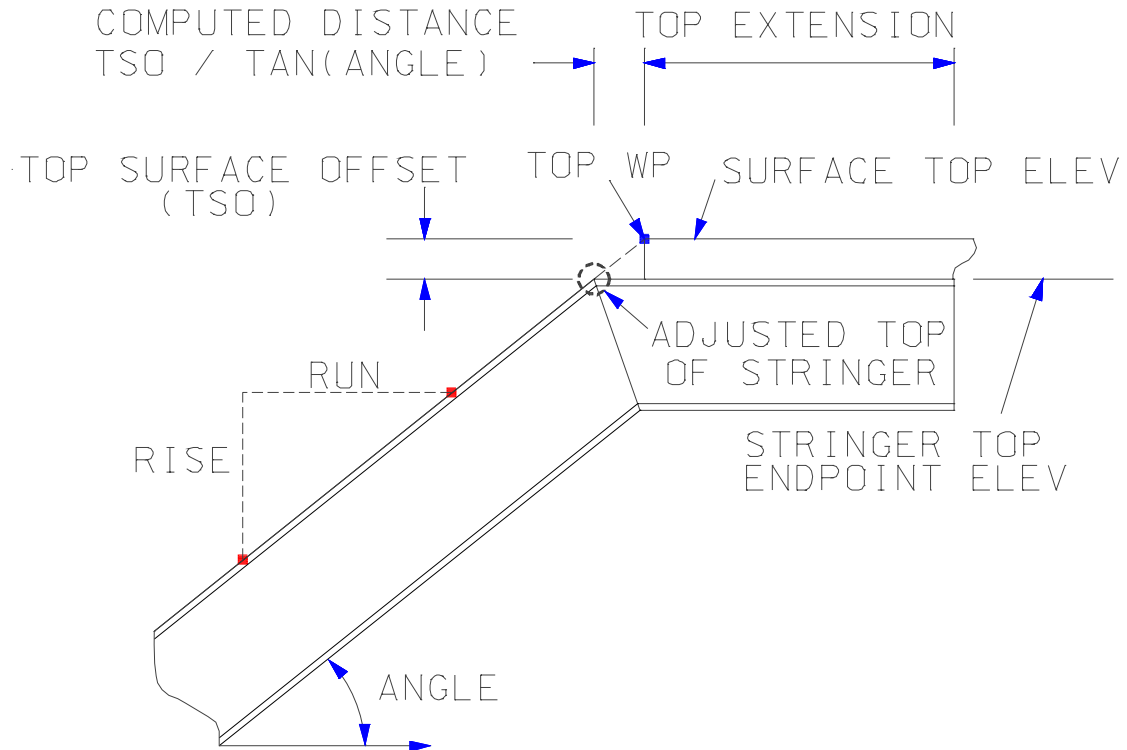

Figure 7: Top Surface Offset
The above illustrates the method for inset handling when horizontal shifting at both ends is requested. The inset may be specified as normal, vertical or horizontal. No matter which method is used for specification, the basic movement is very similar. The equations relating horizontal inset value (HV), vertical inset (VV) and normal inset value (NV) are shown on the figure above. For each method of specification, the offset stringer CP line is parallel to a line from the top WP to the bottom WP. This figure illustrates the case where a horizontal shift is requested for both the top and the bottom of the stringer. The amount of the horizontal shift can be computed using the equations shown above (note for a horizontal inset, the shift is the value of the horizontal inset). The stringer CP line remains parallel to the line from the top WP to the bottom WP, it is simply shifted to accommodate the inset. The tip (CP lines) for all treads lie on a line from the top WP to the base WP. The rise and run from the top to the bottom remains consistent. Horizontal top shift is a good option for top landing situations. A base horizontal shift is a good base option when base has a landing or a horizontal cut. This figure is typical of the case where there is no top or bottom surface offsets (note that in the case above WP's are at original stringer ends – see figures 7 & 8). If top and or bottom surface offsets are specified, neither the original stringer endpoint nor the shifted stringer endpoint is on a horizontal line through the top or bottom WP. If a surface offset is involved, the new stringer endpoint location is located by shifting the end in question laterally along the stringer top and/or base endpoint elevation line an amount equal to the lateral offset value (specified or computed).
The above illustrates the method for inset handling when vertical shifting at both ends is requested. The inset may be specified as normal, vertical or horizontal. No matter which method is used for specification, the basic movement is very similar. The equations relating horizontal inset value (HV), vertical inset (VV) and normal inset value (NV) are show on the figure above. For each method of specification, the offset stringer CP line is parallel to a line from the top WP to the bottom WP. This figure illustrates the case where a vertical shift is requested for both the top and the bottom of the stringer. The amount of the shift can be computed using the equations show above (note for a vertical inset, the shift is the value of the vertical inset). The stringer CP line remains parallel to the line from the top WP to the bottom WP, it is simply shifted to accommodate the inset. The tip (CP lines) for all treads lie on a line from the top WP to the base WP. The rise and run from the top to the bottom remains consistent. Vertical top and/or bottom shift is a good option when there is a vertical (flush) cut end present. This figure is typical of the case where there is no top or bottom surface offsets (note that in the case above WP's are at original stringer ends – see figures 7 & 8). If top and or bottom surface offsets are specified, neither the original stringer endpoint nor the shifted stringer endpoint is on a vertical line through the top or bottom WP. If a surface offset is involved, the new stringer end location is located by shifting the end in question vertically along a line through the original stringer endpoint and shifting an amount equal to the vertical offset value (specified or computed).
The above illustrates the method for inset handling when horizontal shift is requested at the top and vertical shift is requested at the base. The inset may be specified as normal, vertical or horizontal. No matter which method is used for specification, the basic movement is very similar. The equations relating horizontal inset value (HV), vertical inset (VV) and normal inset value (NV) are shown on the figure above. For each method of specification, the offset stringer CP line is parallel to a line from the top WP to the bottom WP. This figure illustrates the case where a horizontal shift is requested at the top and a vertical shift is requested at the bottom of the stringer. The amount of the shift can be computed using the equations shown above. The stringer CP line remains parallel to the line from the top WP to the bottom WP, it is simply shifted to accommodate the inset. The tip (CP lines) for all treads lie on a line from the top WP to the base WP. The rise and run from the top to the bottom remains consistent. Horizontal top shift is a good option for top landing situations. Vertical base shift is a good option when there is a vertical (flush) cut end at the base. This figure is typical of the case where there is no top or bottom surface offsets (note that in the case above WP's are at original stringer ends – see figures 7 & 8).
The above illustrates the method for inset handling when a vertical shift is requested at the top and a horizontal shift is requested at the base. The inset may be specified as normal, vertical or horizontal. No matter which method is used for specification, the basic movement is very similar. The equations relating horizontal inset value (HV), vertical inset (VV) and normal inset value (NV) are shown on the figure above. For each method of specification, the offset stringer CP line is parallel to a line from the top WP to the bottom WP. This figure illustrates the case where a vertical shift is requested at the top and a horizontal shift is requested at the base of the stringer. The amount of the shift can be computed using the equations shown above. The stringer CP line remains parallel to the line from the top WP to the bottom WP, it is simply shifted to accommodate the inset. The tip (CP lines) for all treads lie on a line from the top WP to the base WP. The rise and run from the top to the bottom remains consistent. Vertical shift is a good option when there is a vertical (flush) cut end at the top. A base lateral shift is good base option when base has a landing or a horizontal cut. This figure is typical of the case where there is no top or bottom surface offsets (note that in the case above WP's are at original stringer ends – see figures 7 & 8).